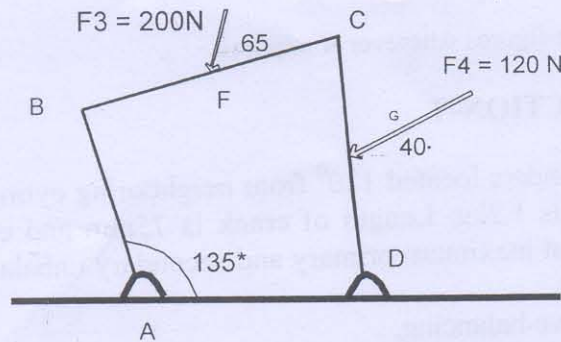

Fig.2
- Q4 Fig 2 Shows a Mechanism ABCD, EFG are the midpoints of the links as shown in fig. Determine the torque  $T_2$  to keep the mechanism in static equilibrium. Also find pin reaction (By using Analytical Method).  $AB = 30$  mm,  $BC = 90$  mm,  $CD = 60$  mm,  $AD = 40$  mm.